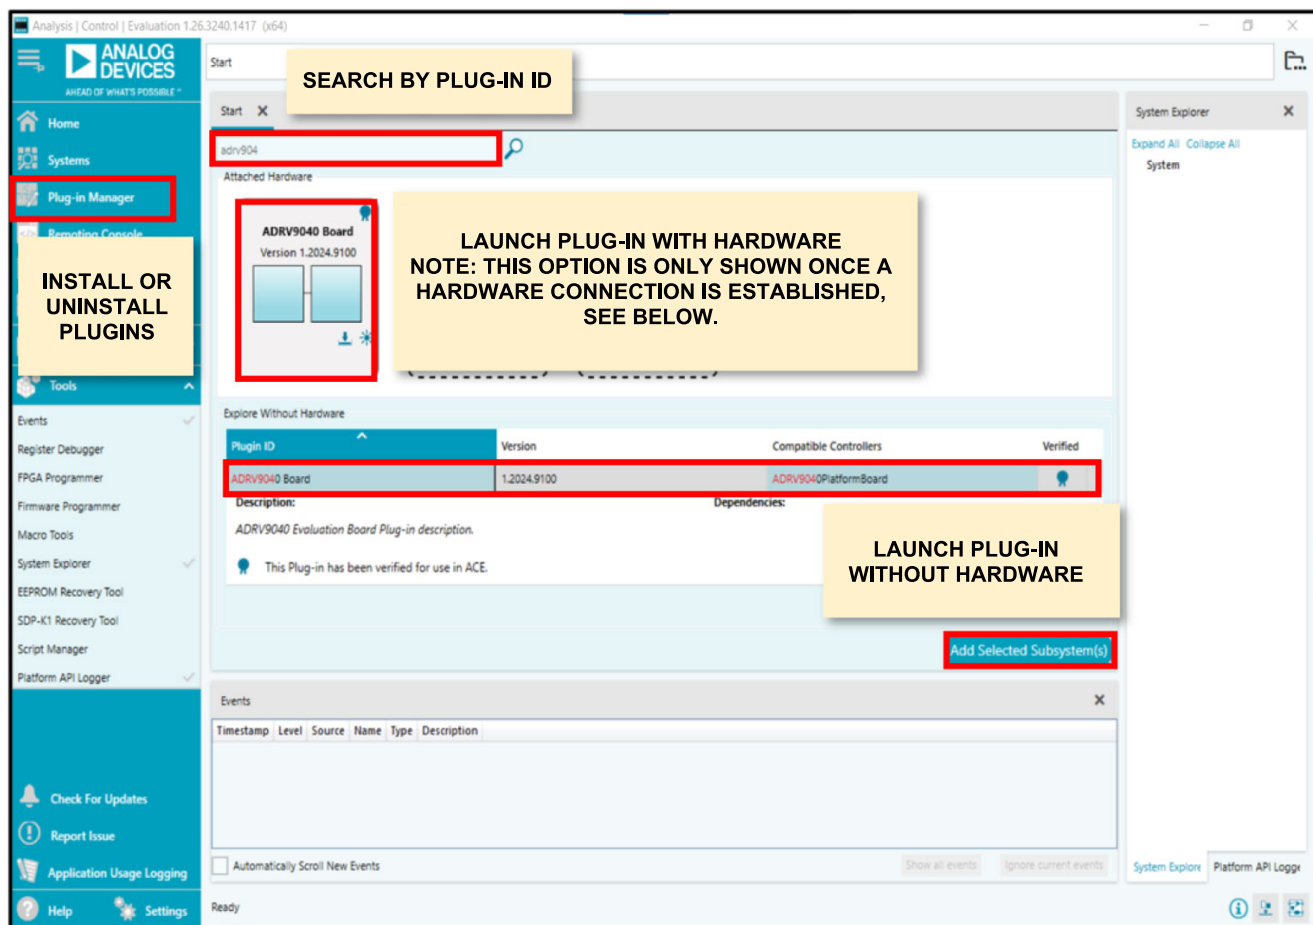

Figure 4. ACE Startup Screen Showing the Installed ADRV904x Plugin Which can be Double Clicked to Start the Configurator Without Hardware
Once ACE is installed, the ADRV904x plugin can be installed by double clicking on the included **.acezip** file. This launches ACE with the ADRV904x plugin listed in the **Explore Without Hardware** section as **ADRV9040 Board** (see Figure 4). The plugin may take a moment to load on ACE first launch. Alternatively, ACE plugin manager can be used for installing the plugin as described in the Installing the ADRV904x Plugin Using the Plugin Manager section. The uninstallation process for plugins is also described in the Appendix section.
- ▶ Without hardware. Double click on the ADRV904x plugin row under **Explore Without Hardware** or select the plugin row and click on **Add Selected Subsystem(s)** to start as shown in Figure 4.